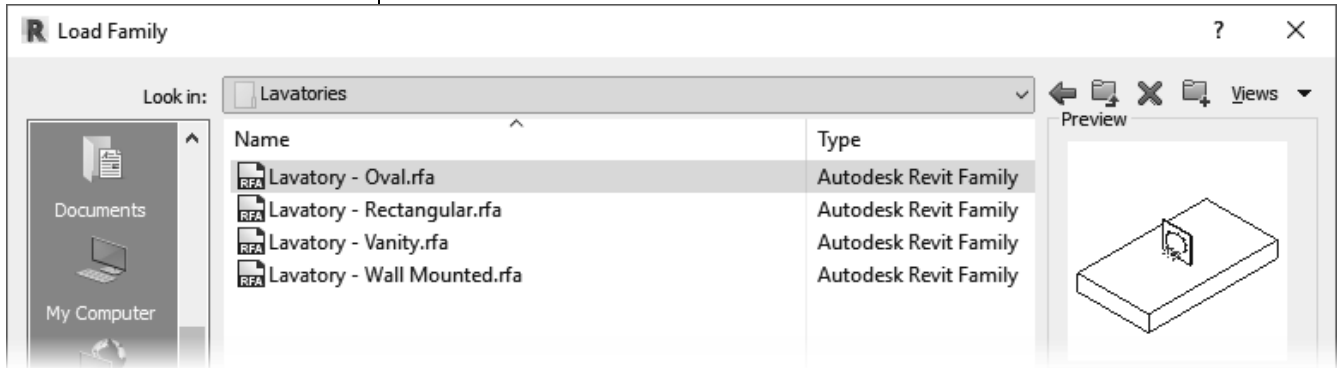

Figure 2–24
7. In the Load Family dialog box, the Autodesk Revit family library automatically displays. Navigate to the *Plumbing>MEP>Fixtures>Lavatories* folder and select **Lavatory - Oval.rfa**, as shown in Figure 2–24.